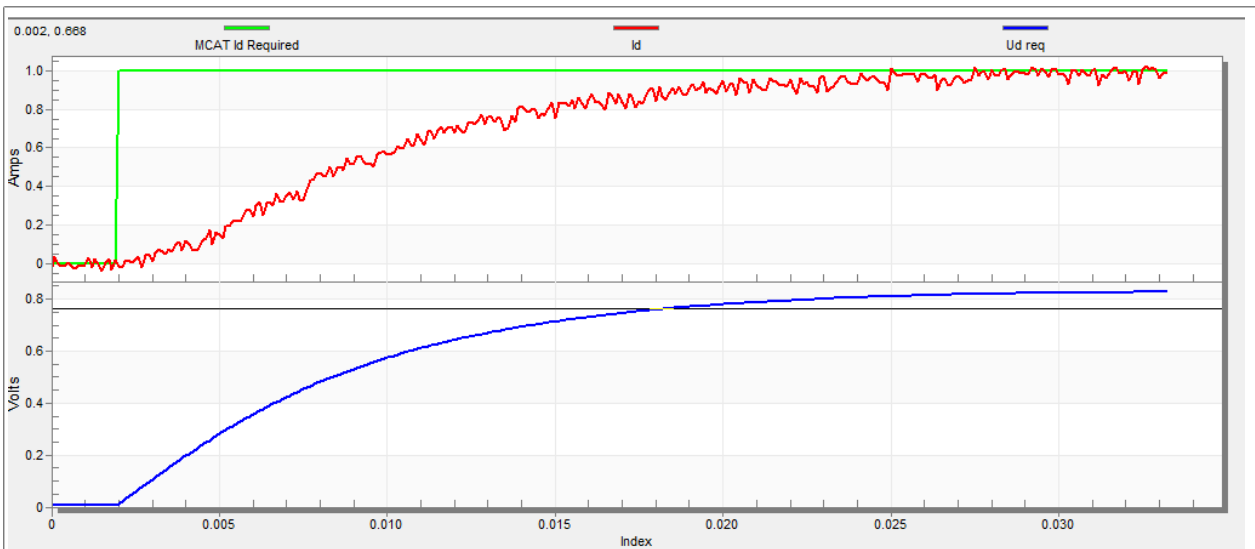

Figure 19. Slow step response of the Id current controller
- The loop bandwidth is low (110 Hz) and the settling time of the Id current is long (Figure 19).